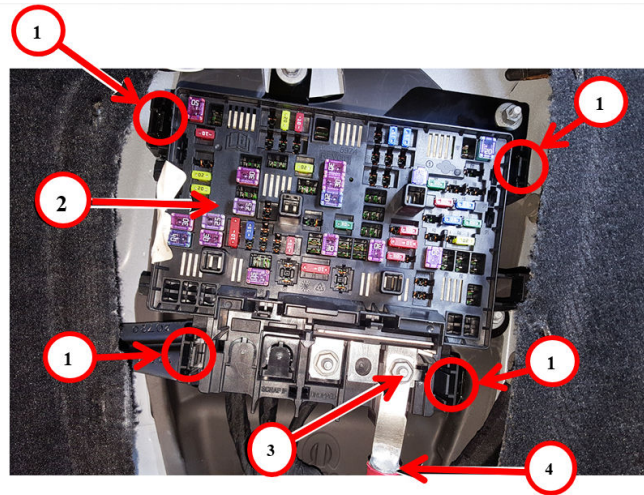

Fig. 2
3. Remove the electrical terminal nut and positive cable from the PDC Fig. 2.
4. Release the retaining tabs securing the PDC to the PDC bracket Fig. 2.
16. Engage the retaining tabs securing the PDC to the PDC bracket Fig. 2.
17. Connect the positive terminal to the PDC and secure using an electrical terminal nut Fig. 2.